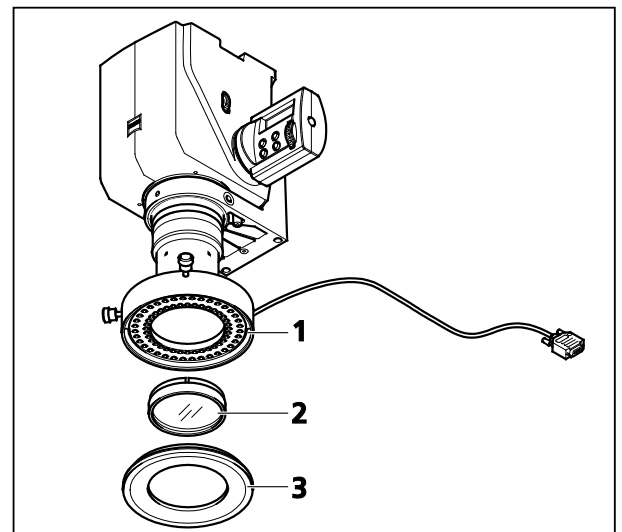

Fig. 35 VisiLED ring illuminator S 80-55 BF
LED ring illuminator (Fig. 35/1)
- Assembly, use and operation of the polarizer (Fig. 35/2) and analyzer (Fig. 35/3) is similar to the fiber-optic slit-ring illuminator. Exception: the analyzer is snapped on, not screwed.